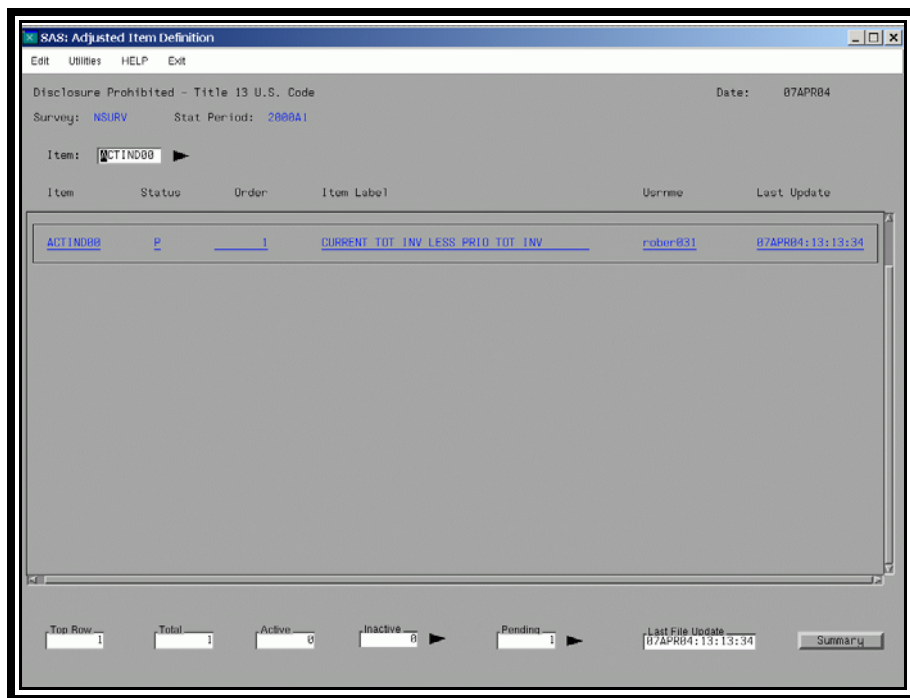

Figure 13.1.2 Adjusted Items Definition screen
- Click on “2. Adjusted.” The screen shown as Figure 13.1.2 will appear: